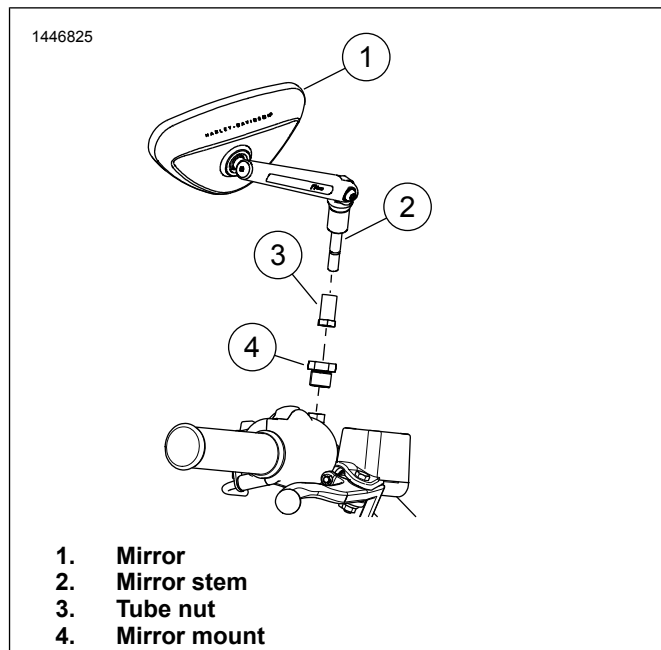

Figure 2. Mirror
1. See Figure 2. Remove mirror (1).
- a. Remove mirror (1).
- b. Remove tube nut (3).
- c. Remove mirror mount (4).
1. See Figure 2. Install mirror. Discard acorn nut and lockwasher from kit.
- a. Install Original Equipment (OE) mirror mount (4).